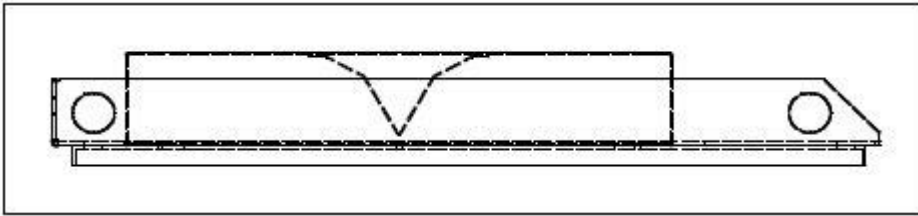

Figure 5-10. Roof structure seen from the side
**NOTE!** If a flat roof is used, mount a V-shaped air guide on the underside of the roof to direct the air flow horizontally. See Figure 5-10.